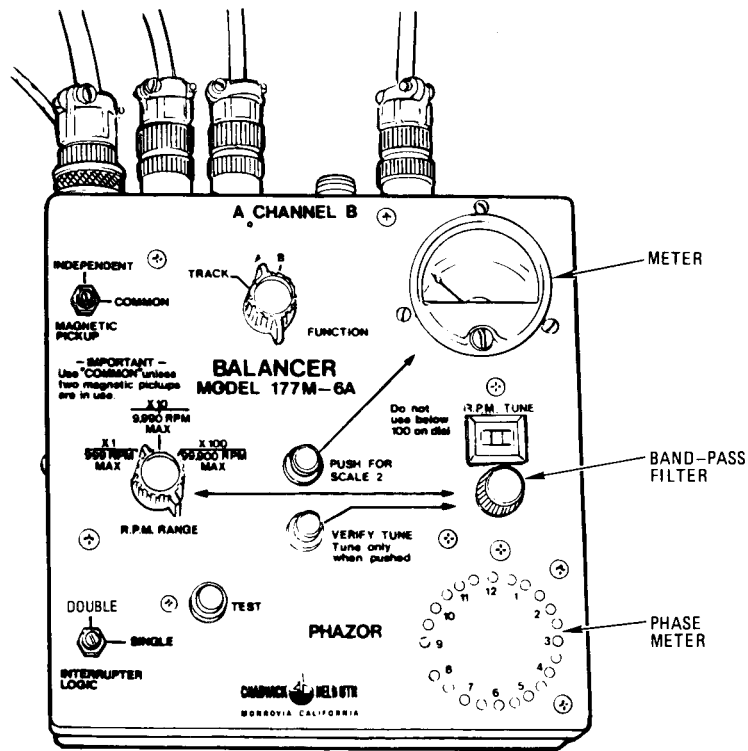

Figure 1-2. Balancer/Phazor 177M6A
a. Balancer/Phazor 177M6A. The key feature of the Balancer/Phazor (fig. 1-2) (hereafter referred to as Balancer) is a tune able, electronic bandpass filter which is tuned to reject all but one frequency, or vibration under study. The meter reads the level of vibration at the rate (RPM) of concern, which is indicative of the amount of the required change (track or balance). The Phazor section contains a phase meter that reads clock angle, or phase angle, between a one-per-revolution Magnetic Pickup azimuth signal from the rotor and a vibration signal from the Accelerometer.